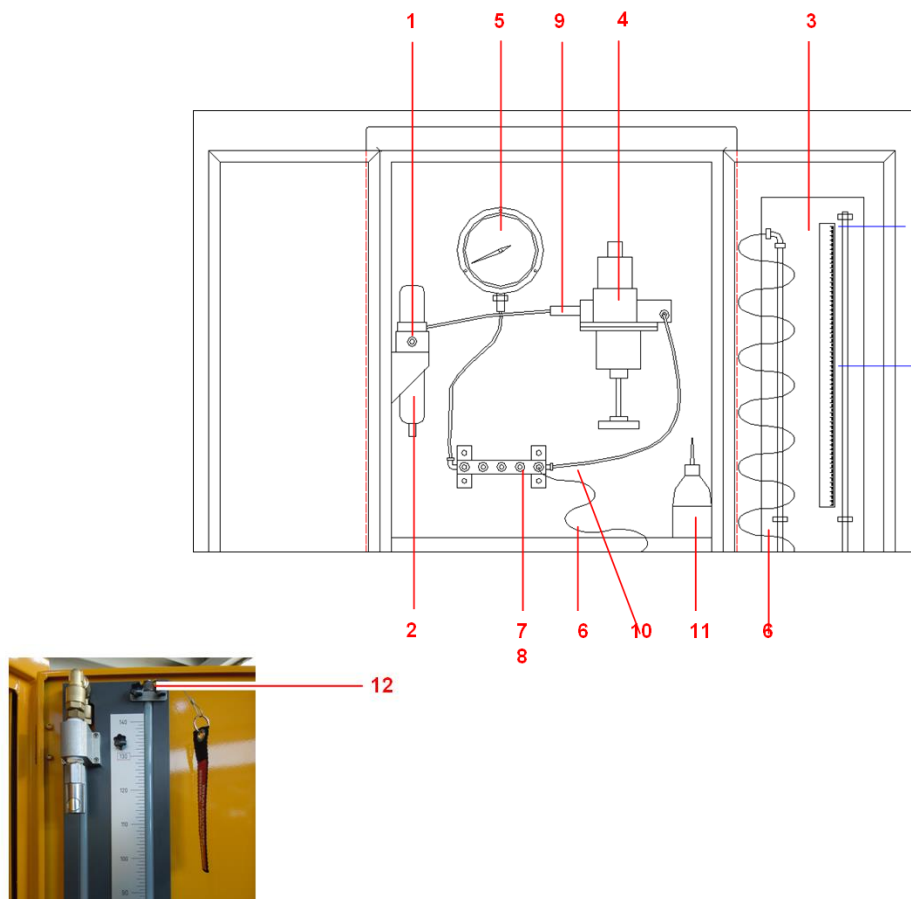

Fig. 2.1 CONTROL PANEL
2.3.3 WORKING INSTRUCTIONS (ref. fig. 2.1 - 2.2)
- c) The functional test is a leak test of the (Ref Fig 2.1):